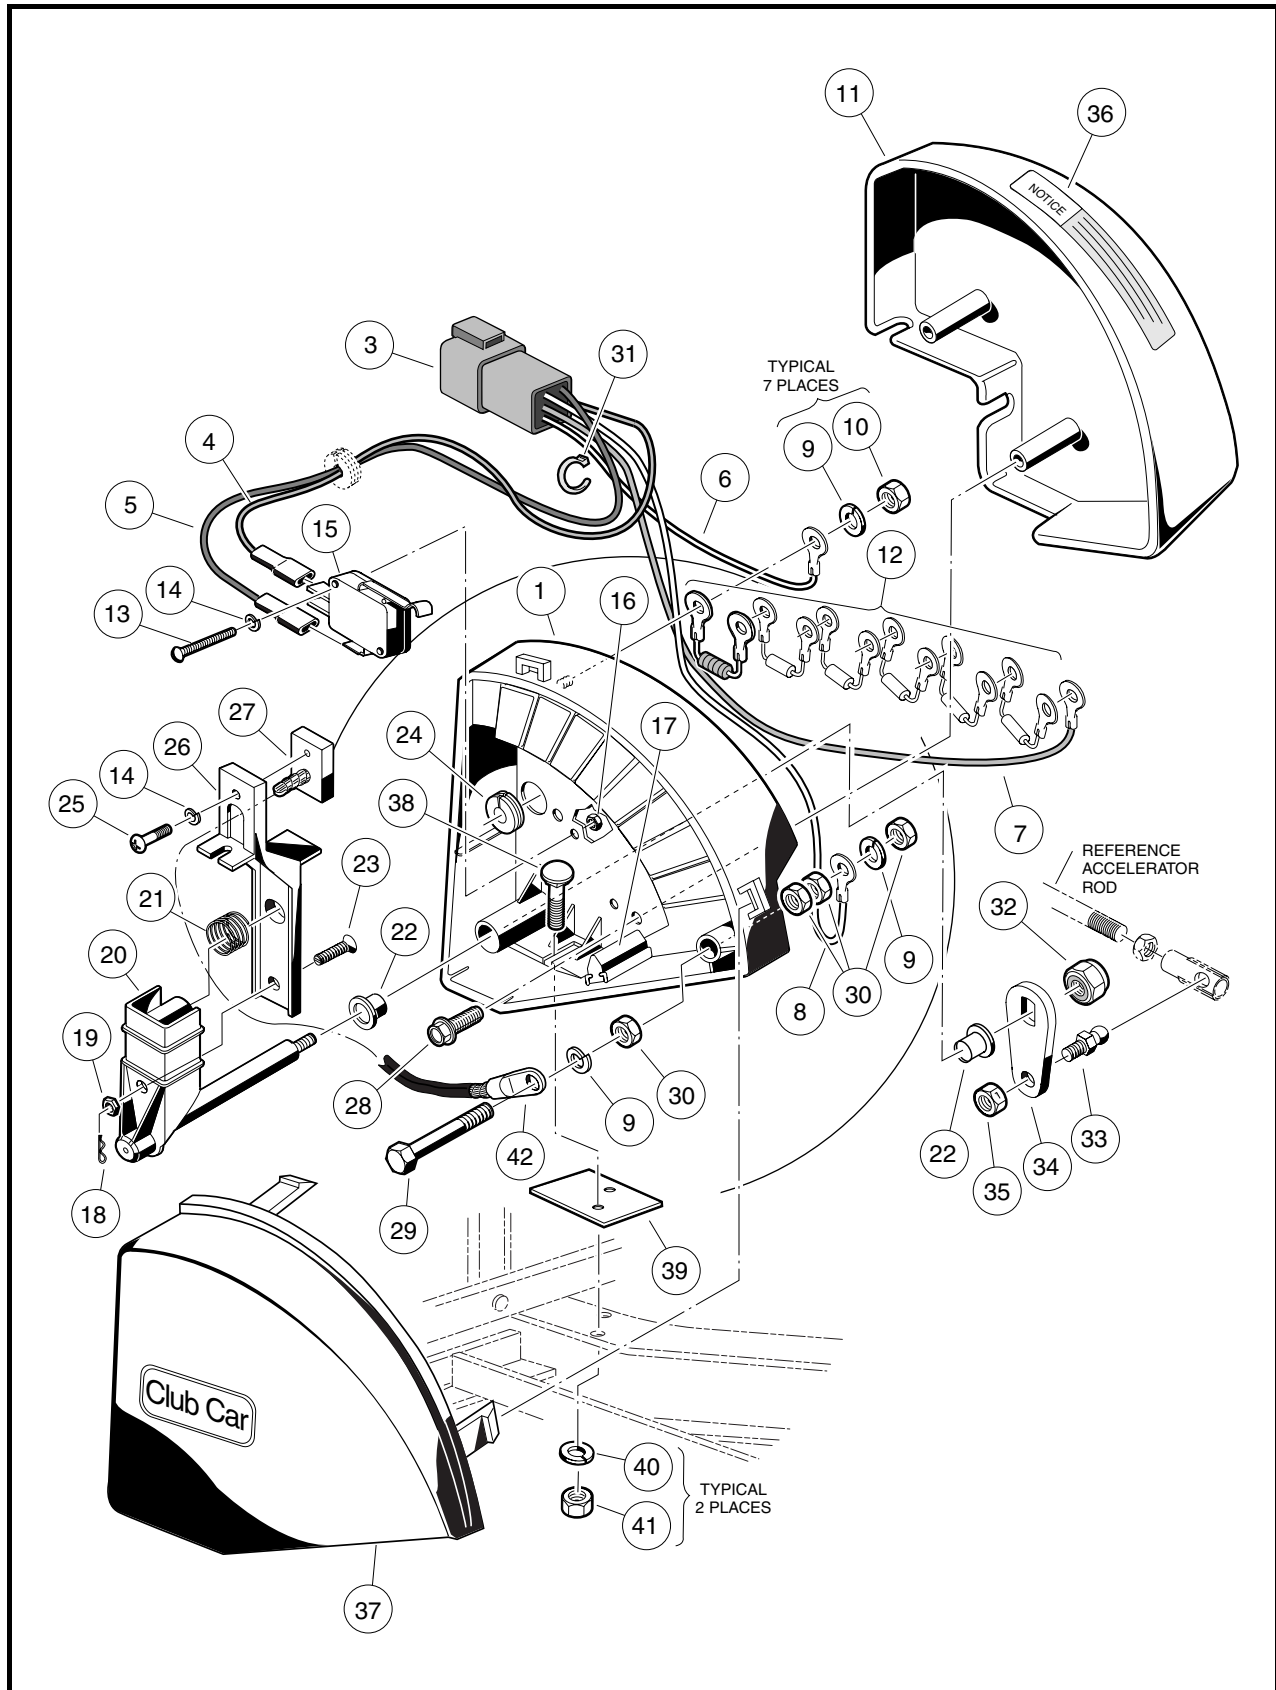

Figure 12-13 Multi-step Potentiometer
5. While holding the bell crank so the arm does not exert a load on the housing, install the nut (32) and tighten to 9 ft.lb (12 N-m) **(Figure 12-13, Page 12-17)**.
6. Install screw (29), lock washer (9), and nut (30) through potentiometer housing **(Figure 12-13, Page 12-17)**.
7. Install nuts (30) and yellow 18 gauge wire (8) onto the screw and tighten to 40 in.lb (4.5 N-m).
3. To adjust surface contact, remove the spring cotter pin (if present) (18) and turn the adjustment screw (23) (**Figure 12-13, Page 12-17**) until the surfaces of the multi-step potentiometer arm brush and fixed contacts are parallel (**Figure 12-10, Page 12-14**). **See following NOTE.**
- A MID-MODEL YEAR DESIGN CHANGE RESULTED IN THE REMOVAL OF THE SPRING COTTER PIN (18) AND THE REPLACEMENT OF THE HEX NUT (19) WITH A NYLON LOCK NUT (**FIGURE 12-13, PAGE 12-17**). USE OF A LOCKING COMPOUND IS NOT NECESSARY IN CONJUNCTION WITH A NYLON LOCK NUT.
4. After adjustment has been made, apply one drop of Loctite® 290 thread locking compound to the adjustment screw (23) at the hex nut (19). Then install the spring cotter pin (18) through the hole in the adjustment screw (Figure 12-13, Page 12-17). See preceding NOTE.
4. Remove the first nut (30), and lock washer (9) from the bolt (29) and remove the 18 gauge yellow wire (8) (Figure 12-13, Page 12-17).
5. Remove the second and third nuts (30) from the bolt (29) and then remove the bolt from the potentiometer housing (1) (Figure 12-13, Page 12-17).
6. Remove the fourth nut (30) and wire (42) from the bolt (29) (Figure 12-13, Page 12-17).
7. Replace the wiper arm brush (27) as follows (Figure 12-13, Page 12-17).
- 7.1. Remove screw (25) and lock washer (14). Pull arm assembly away from fixed contacts (Figure 12-13, Page 12-17).
- 7.3. Install new wiper arm brush assembly (27) (Figure 12-13, Page 12-17).
- 7.4. Install screw (25) and lock washer (14) through wiper arm into brush. Tighten screw to 7 in.lb (0.8 N-m) (Figure 12-13, Page 12-17).
8. Install arm brush wire terminal (42) onto the bolt (29) and then install the nut (30). Thread the nut against the arm brush wire terminal and tighten it to 40 in.lb (4.5 N-m) (Figure 12-13, Page 12-17).
9. Install the bolt (29) through the potentiometer housing (1) and then install the two nuts (30) onto the bolt. Tighten the nuts to 40 in.lb (4.5 N-m) (Figure 12-13, Page 12-17).
10. Install the 18 gauge yellow wire onto the bolt (29), then install the lock washer (9) and nut (30). Tighten nut to 40 in.lb (4.5 N-m) (Figure 12-13, Page 12-17).